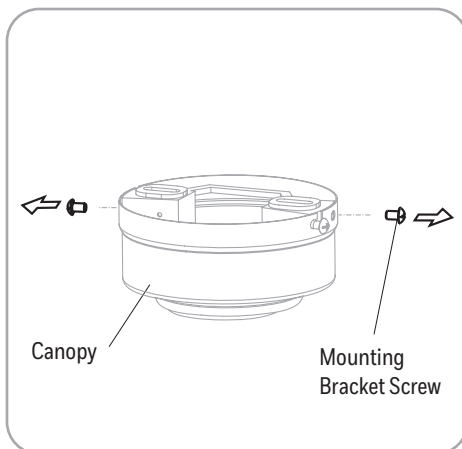

Figure 2.1
1. Loosen all four mounting bracket screws located on the mounting bracket and completely remove the two screws from the round holes in the canopy. Save the screws for later. Remove the canopy from the mounting bracket (Figure 2.1).